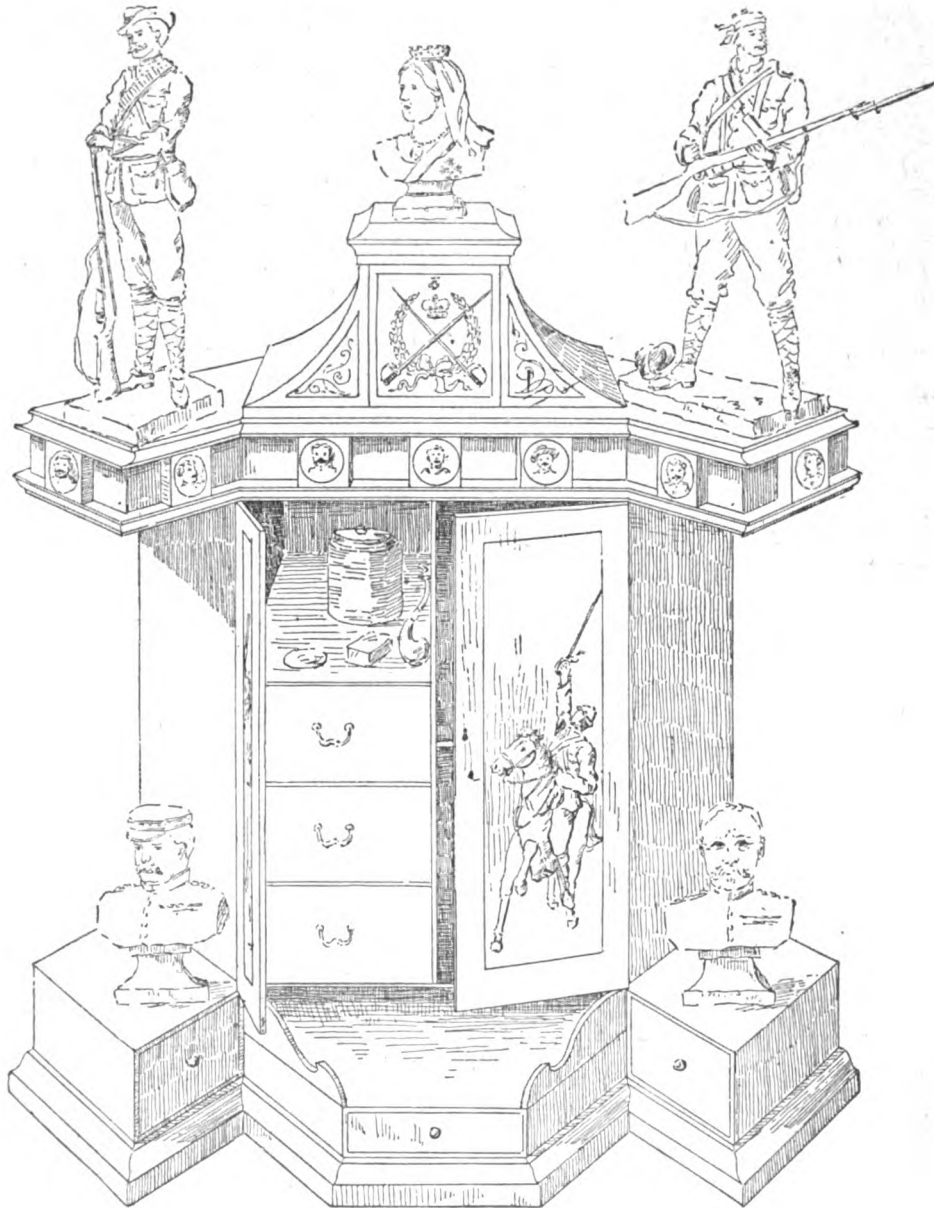

FIG. 1
**Artificial Minnows.**—Here are a few hints on making artificial phantom minnows. To make the castings for the heads, cut a piece of thin sheet copper to the shape of Fig. 1, making the outer line A as long as the circumference of the body, and the inner line B equal to the circumference of the mouth. Polish the metal on both sides, brush over with "killed" spirit of salts, and with a soldering iron give a thin coating of solder on both sides. Now take a fine hack-saw and make two kerfs for the fins as shown in Fig. 1, the inclination of the top one with the outside line being the same as that of the lower kerf with the centre line. Bend the copper round an iron rod pointed as at Fig. 2, to form the head (Fig. 3), then make a ring A (Fig. 3) of the same material, and solder it into the hollow of the head. Cut out the fins B (Fig. 3), tin them all over with the soldering iron, and solder them into the two saw kerfs. Now cut a piece of Japanese silk or a piece of sole skin to the shape of Fig. 4. The silk may be red, white, or yellow, according to the ground colour of the minnow. Paint the material, then sew it up very neatly inside out, turn it, bend it back about  $\frac{1}{2}$  in. at the top end and slip it over the ring A (Fig. 3), securing it in position with a little liquid glue or waterproof cement, and with the point of a knife forcing it well between the head and the ring. A turn or two of well-waxed silk
**Fishing Nets.**—The tools required in making fishing nets consist of a netting needle (Figs. 1 and 2) and a mesh-stick A (Fig. 4). Some prefer the needle shown by Fig. 1, others use the one shown at Fig. 2. Either pattern may be made from beech, pear, boxwood, or other close-grained, tough wood, about 6 in. long by  $\frac{1}{4}$  in. wide by full  $\frac{1}{4}$  in. thick; or a narrower one may be used for a smaller mesh. The mesh-stick A (Fig. 4) is a piece of oval hard wood or bone, about 5 in. long; the size will vary according to the size of the mesh. The method of winding the cord on the needles is shown at Figs. 1 and 2. To make a net, first tie a loop in the cord as at A (Fig. 3) and pass the point of the needle through the loop; then select a convenient nail or hook B (Fig. 4), and over it hang the knot of the loop. Now put the mesh-stick in as shown by A (Fig. 4), and place the first finger of the left hand behind it and the thumb in front,
**Design for Smoker's Corner Cabinet.**—Fig. 1 is a perspective view and Fig. 2 (p. 79) a plan at the base of a smoker's corner cabinet of a patriotic design. From the
**Syphon Attachment to a Manure Tank.**—A liquid manure tank, say 6 ft. square and 4 ft. deep, can be emptied by a syphon if the adjacent ground falls away from the tank, and providing that the outlet end of the syphon is lower than the level of the water that is to be syphoned. In order to start the action there must be some means of filling the syphon. A leather hose-pipe, say 2 in. in diameter, could be used, as shown in the upper part of Fig. 1. The pipe should be first filled with water, then one end of the pipe plugged and dipped down into the liquid manure. On pulling out the plug and taking the other end of the hose pipe to any point below the top level of the liquid in the tank, the flow of liquid would commence. If it is required to fill the manure into a tank-cart, and the inclination of the ground continues to be, say, 1 in 3, about 10 yd. of pipe
will be required. The lower part of Fig. 1 shows a simple draw-off or drain of 2-in. wrought-iron tubing, with a rose or strainer inside the tank and a stopcock at the outlet end. This draw-off would always be in working order, and if there is a good fall available the pipe need not be very long. Instead of the leather hose, a permanent iron syphon of 2-in. wrought-iron pipe can be fixed, as shown in the upper part of Fig. 2. A stopcock will be required at the outlet to regulate the discharge, and, in order to start the syphon, another stopcock will be required under the water level in the tank, and also a short branch pipe, which must be provided at its highest point with a screw-down valve that must be air-tight. When this syphon is first put into use the two end stopcocks must be closed, and water poured in at the branch pipe until the whole length of the syphon is filled with water; the screw-down valve is then closed, and when the stopcocks are opened the flow of liquid will commence. If care be taken not to let the level of the liquid in the tank be lowered so much as to permit air to be drawn into the syphon, the syphon will remain full of liquid when the bottom stopcock is closed, and will be ready for use at any time. After the syphon has been in use for some months it may be found that air from the liquid has accumulated in the bend of the pipe. In such a case water must be poured in at the branch pipe, first closing both stopcocks as before described. In the lower part of Fig. 2 is shown a method by which the syphon can be made to fill itself. The apparatus is built into the tank at such a level that the liquid in the tank will rise high enough to fill the syphon; that is to say, the syphon will act as an overflow, and, if permitted, will continue to act until the liquid is lowered to the level of the strainer or the syphon inlet. By means of a stopcock on the outlet end of the syphon just as much of the liquid can be drawn off as is required, and the syphon left ready for action. If the syphon should accidentally run dry it can be started again by filling the tank.
**Stand for Teapot or Flower-pot.**—Fig. 1 is a section of a stand or flower-pot stand, and Fig. 2 is a plan. The top,  $\frac{1}{2}$  in. thick, is circular, and the edge is rounded as shown in section; the shape of the two feet, which
are joined together by a half-lap joint, is illustrated by Fig. 1. As a variety, an oval top might be used, and in that case, of course, one foot would be longer than the other.
**Brush and Comb Box.**—The brush and comb box shown in Figs. 1 and 2 may be made of  $\frac{1}{2}$ -in. wood. A piece 14 in. long and 8 in. wide will make the back and front. The point A (Fig. 1) will be 7 in. from one end,